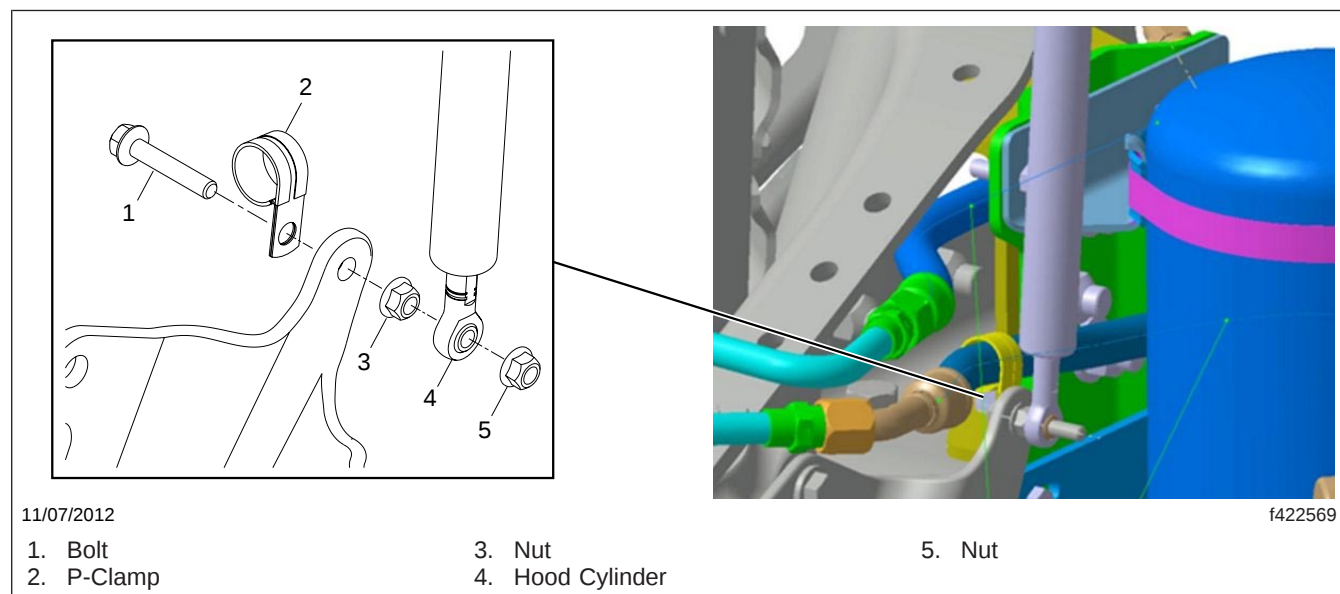

Fig. 4, P-Clamp Installation (AD-9/AD-IP dryers only)
14. On vehicles with AD-9/AD-IP dryers only, disconnect the left side hood cylinder end at the frame rail mounting bracket, and remove the attaching bolt. Place a P-clamp over the braided line between the loop and the dryer, then, using the same bolt, install the clamp on the inside of the hood cylinder mounting bracket. See Fig. 4. Install the hood cylinder.